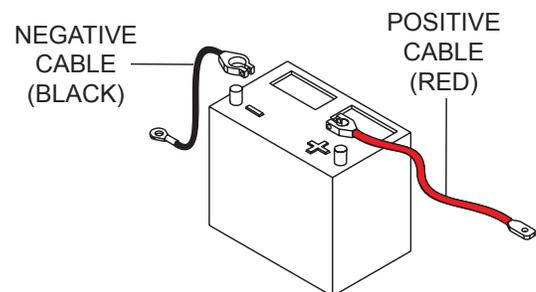

Figure 9. Battery Cable Connection
2. Connect the positive cable (**RED**) to the positive (+) terminal on the battery, then connect the negative cable (**BLACK**) to the negative (-) terminal on the battery. See Figure 9.